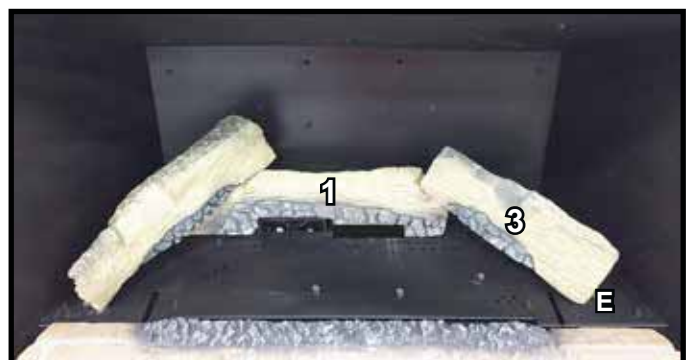

Figure 5. Log #3 Installed
**LOG #3:** The burnout area of Log #3 will face forward. Place the right end of Log #3 centered against log pin E and the left end on the flat spot of Log #1. See Figure 5.